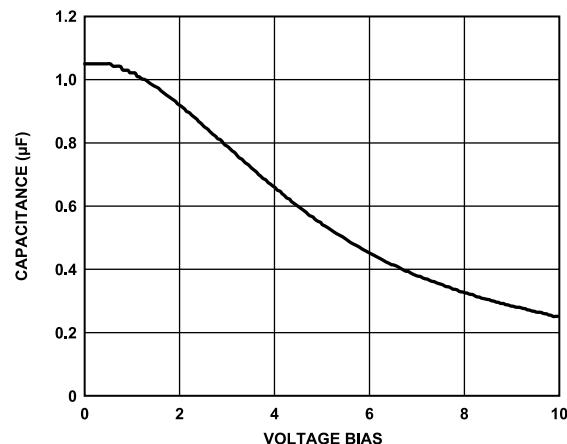

Figure 29. Capacitance vs. Voltage Bias Characteristic
**Figure 29** depicts the capacitance vs. voltage bias characteristic of an 0402, 1  $\mu\text{F}$ , 10 V X5R capacitor. The voltage stability of a capacitor is strongly influenced by the capacitor size and voltage
In this example, the worst-case temperature coefficient (TEMPCO) over  $-40^{\circ}\text{C}$  to  $+85^{\circ}\text{C}$  is 15% for an X5R dielectric, the tolerance of the capacitor (TOL) is 10%, and  $C_{\text{BIAS}}$  is 0.94  $\mu\text{F}$  at 1.8 V, as shown in **Figure 29**.